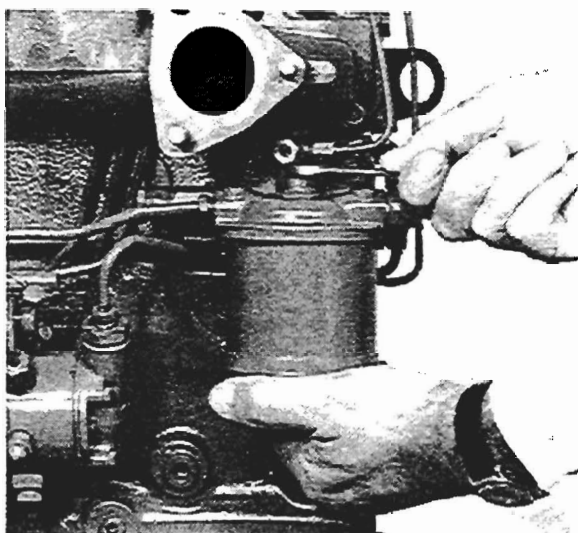

Fig. P1
1. Remove setscrew in centre of fuel filter top cover (see fig. P1).